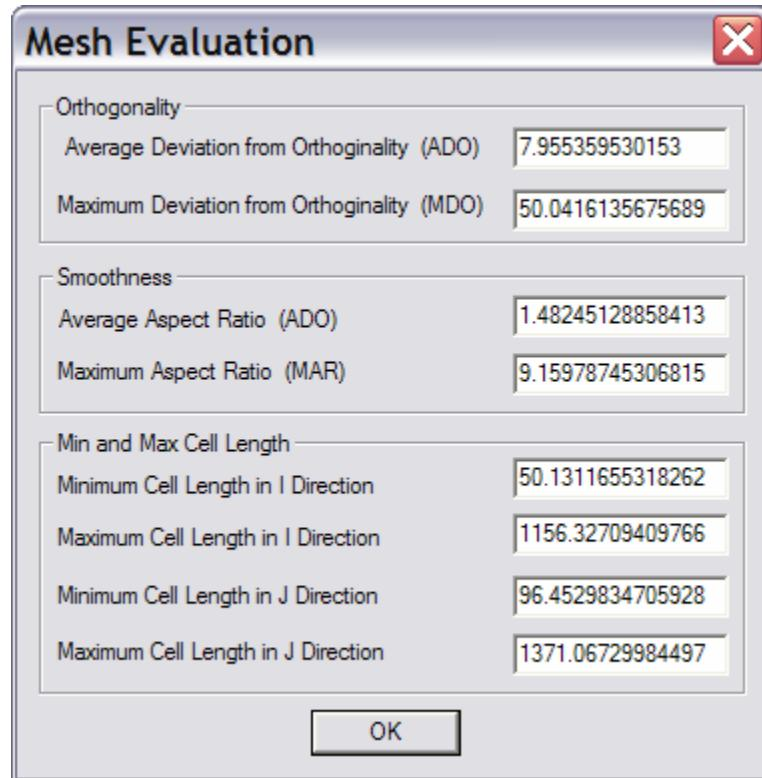

Figure 4-56 Evaluation Report
- **Database Refinement:** If you have a measured cross section file (*.mesh_mcs), you can create a refined random database from it. As shown in Figure 4-56, with the refined database, the accuracy of interpolation can be improved.